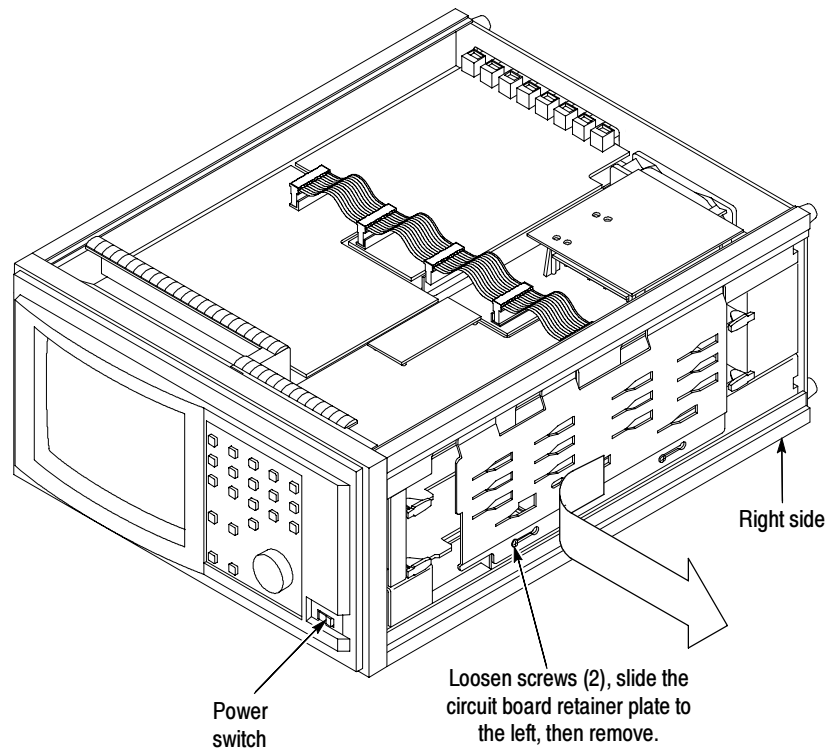

Figure 2: Right card cage retainer plate removal
2. Loosen (but do not remove) two screws on the front of the circuit board retainer plate as shown in Figure 2.